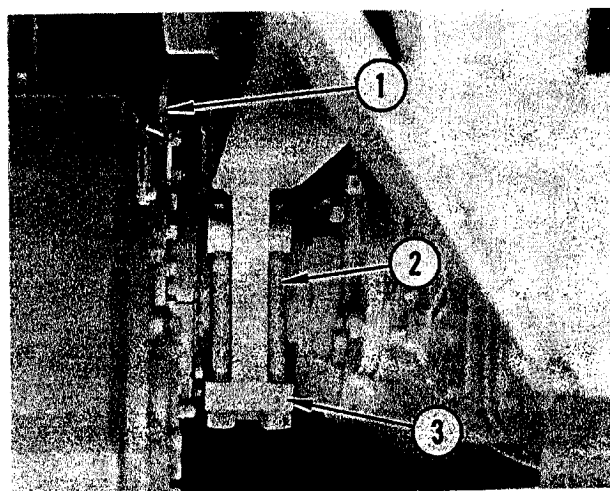

FIGURE 14. SADDLE BOLT
Refer to Figure 14. Disconnect hydraulic brake hose (1) from top of each tandem. Remove four bolts (2) from each saddle mount and remove saddle mounts (3).